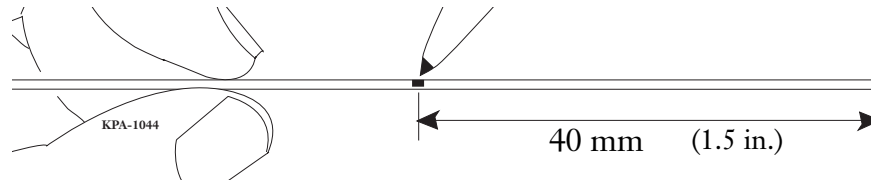

Figure 22 — Measure and Mark the Fiber
Step 1: Using the Strip Length Gauge and permanent marker, measure and mark 40 mm from the end of the buffered fiber (Figure 22).